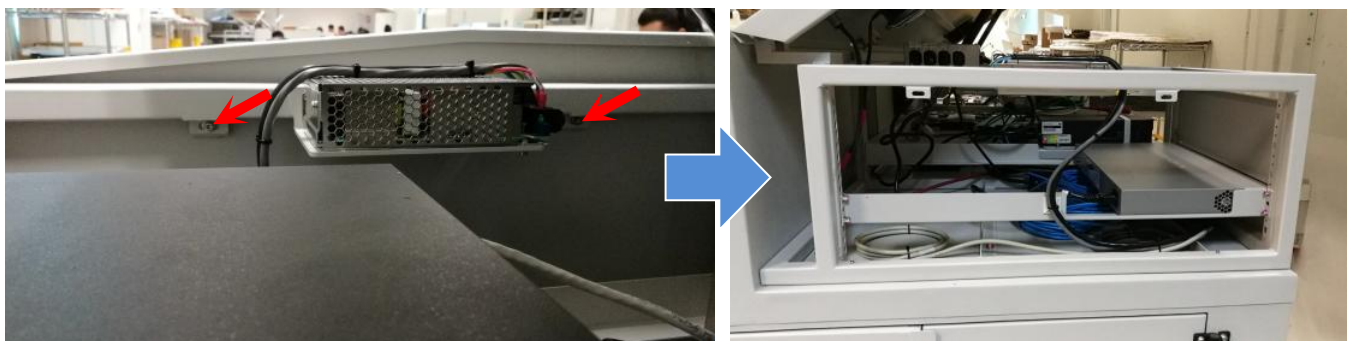

Figure 3 Remove side cover
5. Unscrew as shown and remove “AXI-IRP RACK SIDE COVER 1 ASSEMBLY” as below Figure 3